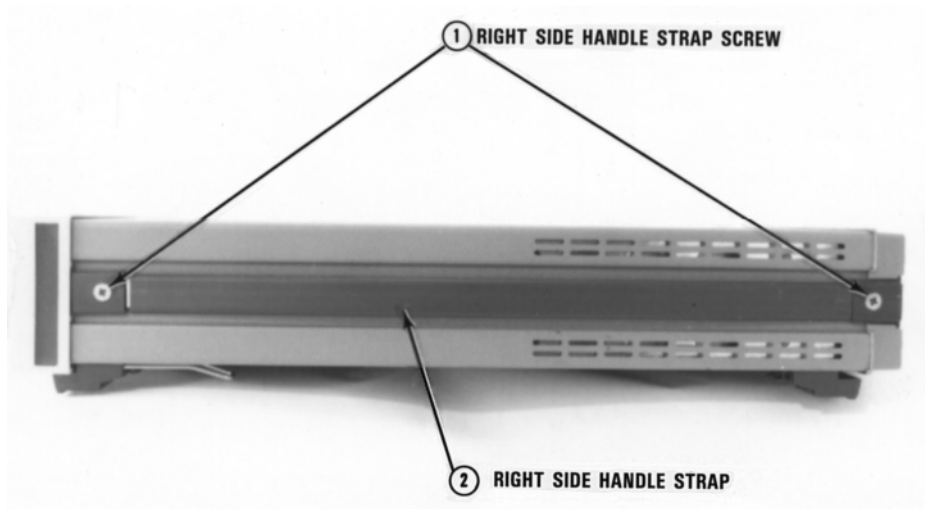
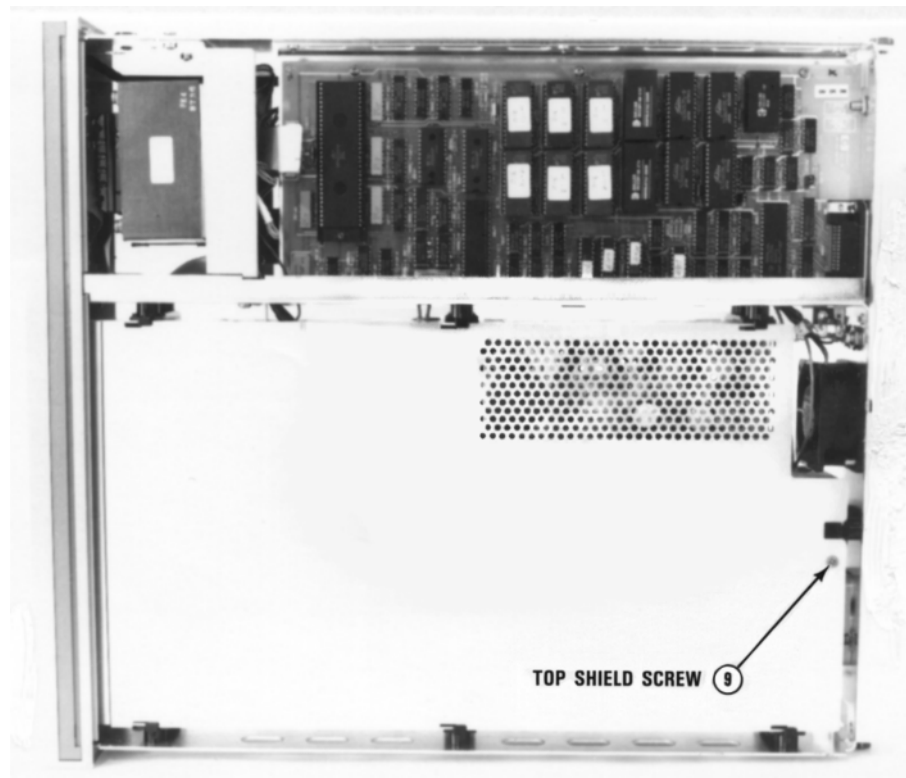

Figure 3-1 Right side handle removal/installation
Figure 3-6 Remove/Install top shield screw
The label numbers in **Figure 3-1** to **Figure 3-6** show the order of cover removal. Use reverse order for installation.
- 3 Refer to Figure 3-1. Turn the instrument so its right side (as seen from the front) faces you.
- 17** Refer to Figure 3-6. Turn the instrument over so its bottom sits on your workbench.
- 3** Refer to **Figure 3-6**. Turn the instrument over so its bottom sits on your workbench.
- 18 Refer to Figure 3-1. Turn the instrument so its right side faces you.